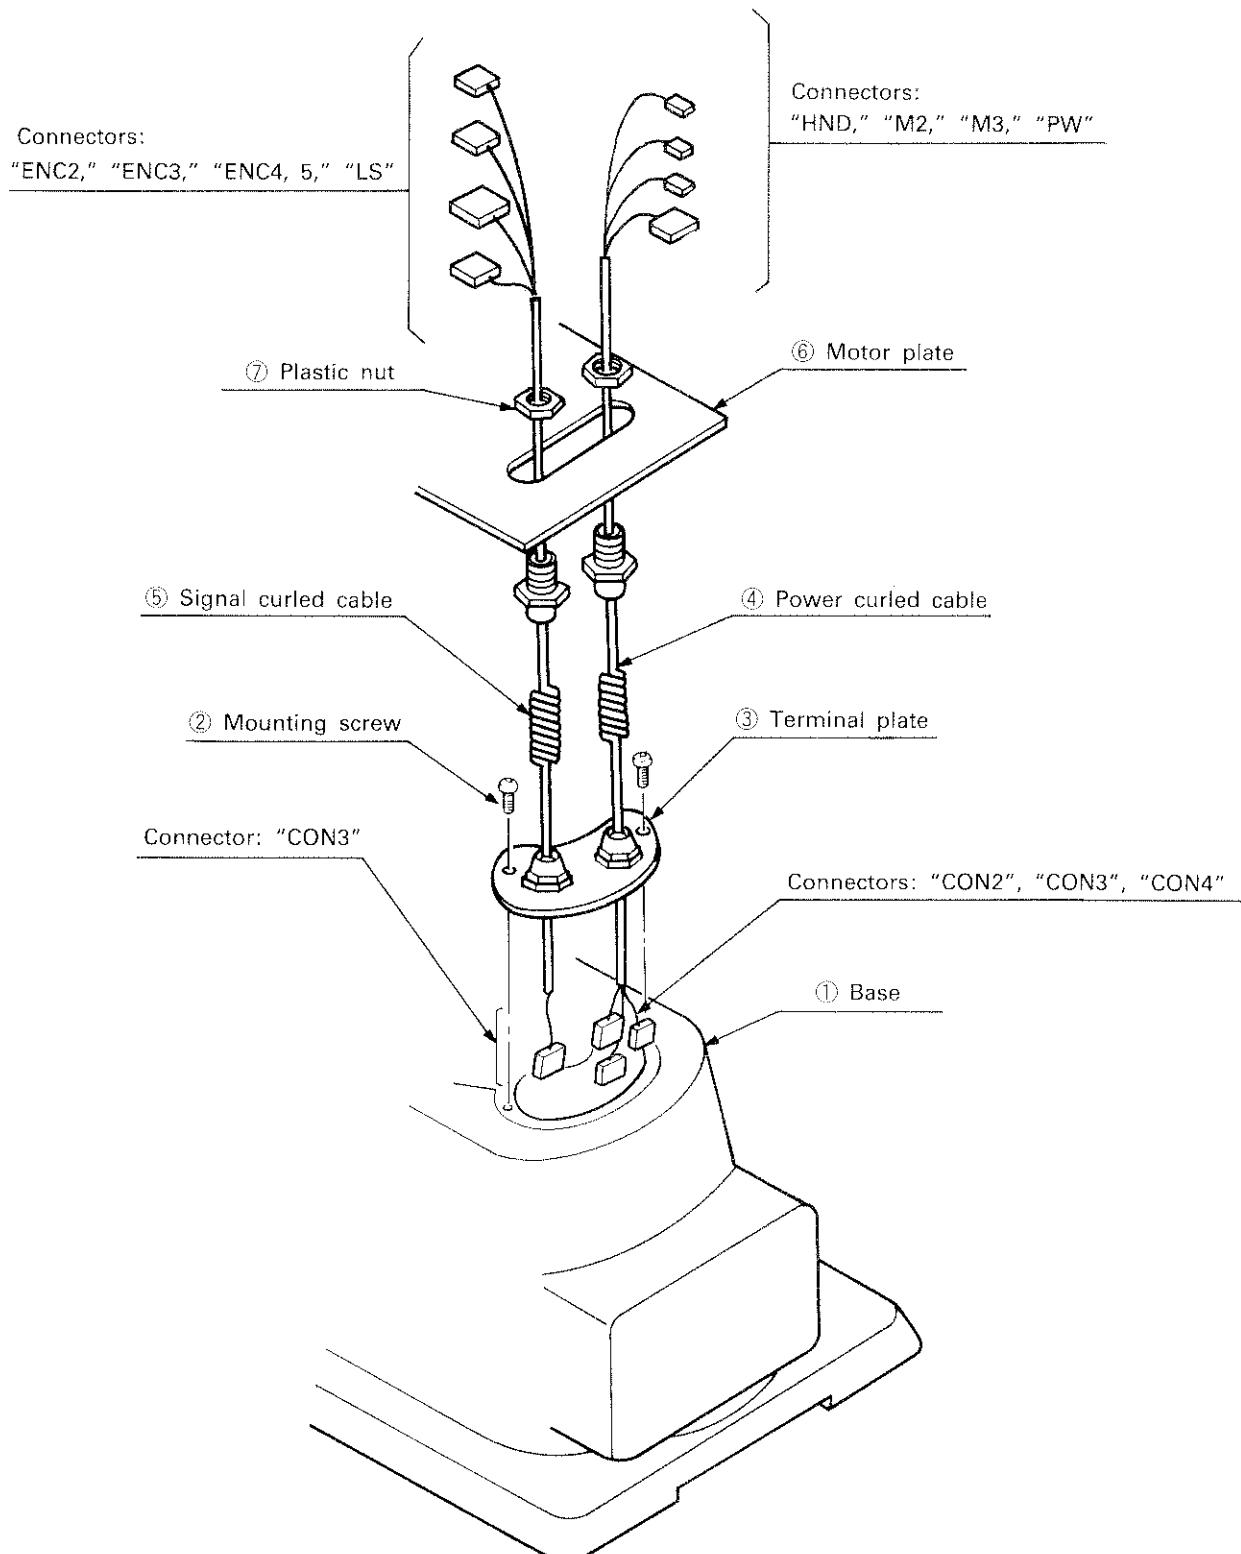

Fig. 4.3.14 Replacing the Curled Cables
- (1) Fig. 4.3.14 outlines the replacement procedure of the two curled cables.
- (2) Make sure that the power switch on the drive unit rear panel is in the OFF position.
- (3) Remove the base side covers and upper and lower shoulder covers by referring to 3.2 Removal of the Covers.
- (4) Unplug the four connectors (connector names: "CON2", "CON3", "CON4" and "CON5") which are plugged into position inside the base ①.
- (5) Unplug the eight connectors (connector names: "PW," "HND," "M2," "M3," "ENC2," "ENC3," "ENC4, 5," and "LS") which are plugged into position inside the shoulder covers.
- (6) Each connector is identified by the connector name printed on the marking seal.
- (7) Remove the two mounting screws ② and pull off the terminal plate ③ together with the power curled cable ④ and signal curled cable ⑤ from the base ①.
- (8) Remove the plastic nuts ⑦, each of which secures the power curled cable ④ and signal curled cable ⑤, respectively, to the motor plate ⑥.
- (9) Pull off the two cables ④ and ⑤ from the motor plate ⑥.
- (10) To install new cables, reverse the order of removal.